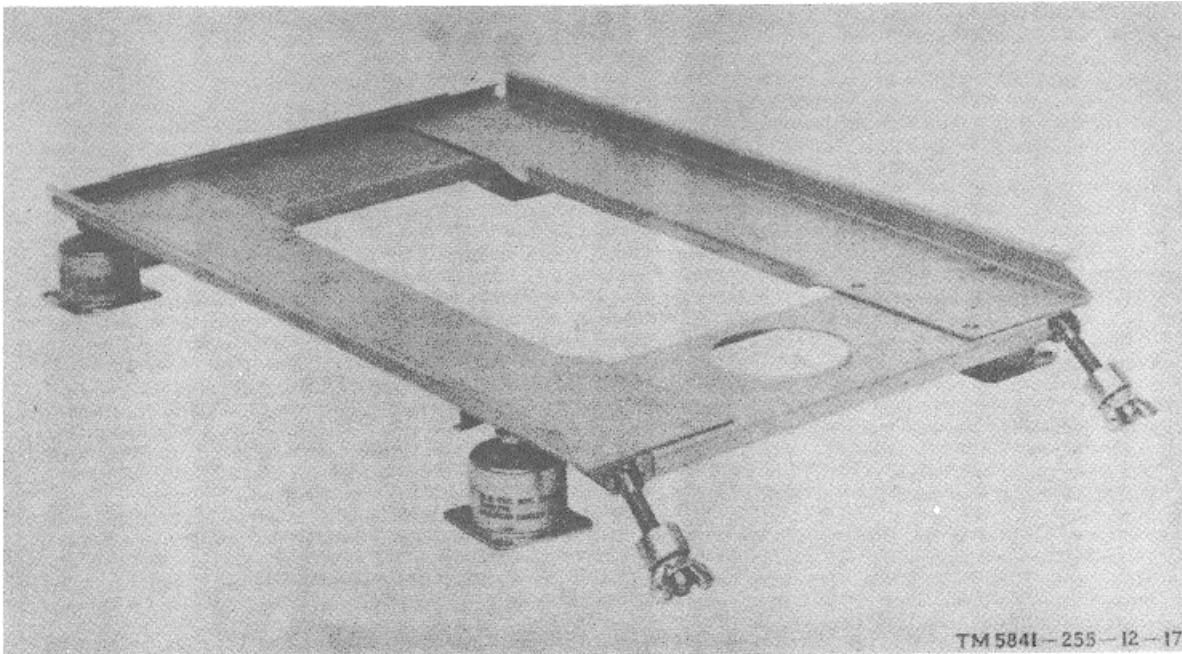

Figure 1-10. Base, Shock Mount, Electrical Equipment MT-3617/A.
c. *Base, Shock Mount, Electrical Equipment MT-3617/A* (fig 1-10). This mount secures Converter-Storer, Signal Data CV-2094/A when installed in the aircraft. A curved lip at the rear of the mount and two screw clamps at the front secure Converter-Storer, Signal Data CV-2094/A to the mount.